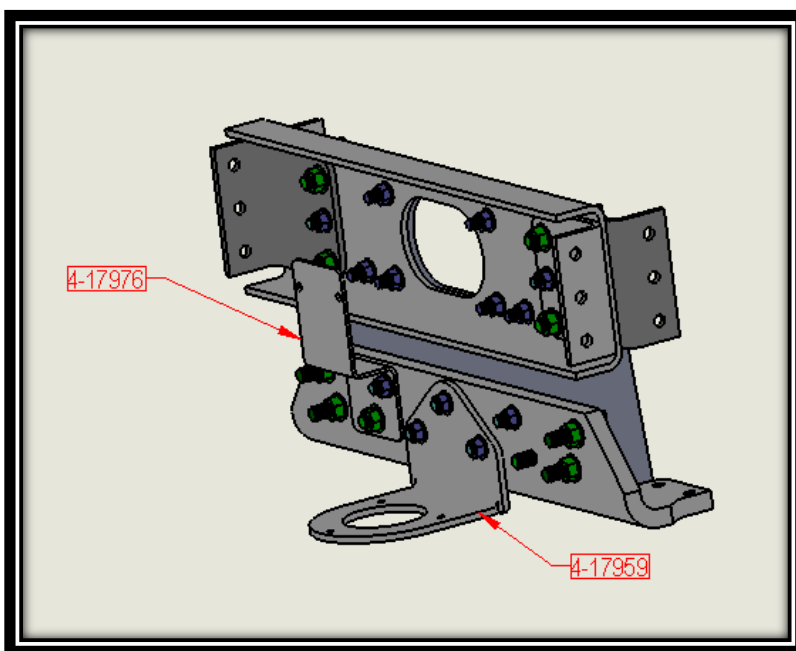

FIG. 11-2
21. If equipped, install AC brackets 4-17959 & 4-17976 as show. Refer to FIG. 11-2.